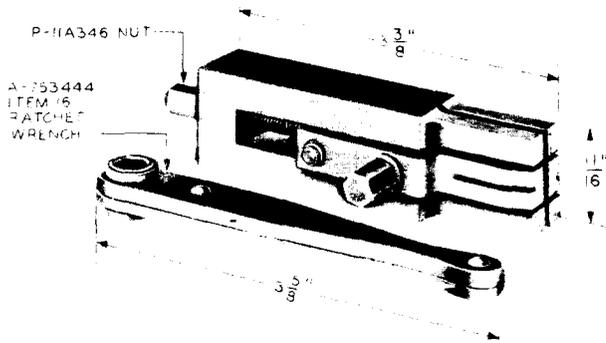

Fig. 10—658B Terminal Extractor Tool
**2.10 658B:** The 658B terminal extractor tool (Fig. 10) is used for removing and replacing broken terminals on cast resin-type terminal strips having terminals arranged for soldered connections and for removing terminals arranged for mechanically wrapped connections.